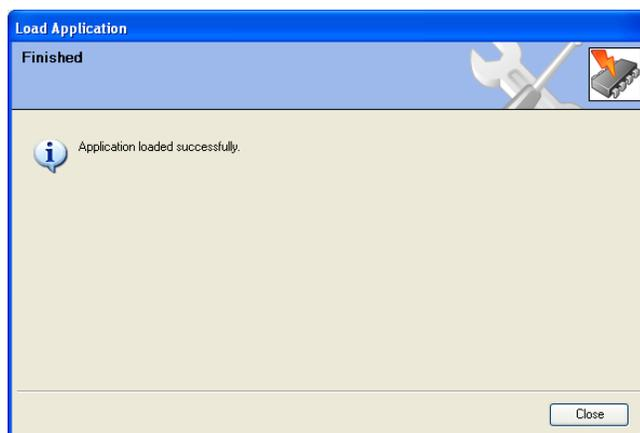

Figure 5-12. Final Screen
17. The converted setting will be loaded into the control. Wait until all settings are saved. The last screen will show with the message "Application loaded successfully" (Figure 5-12). Click Close.